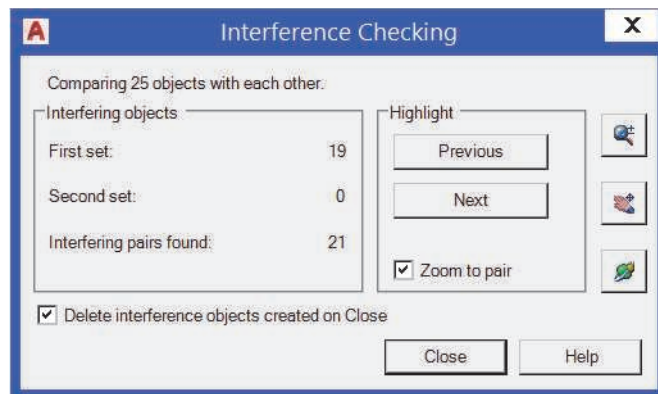

Figure 7–14
4. The Interference Checking dialog box opens as shown in Figure 7–14. It displays information about the interferences and options for modifying the view to display the information more clearly.